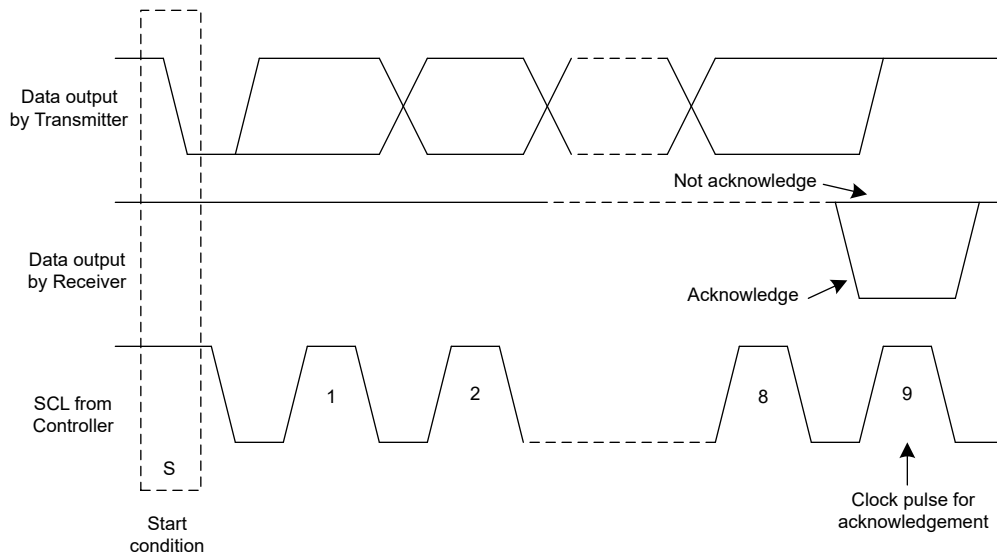
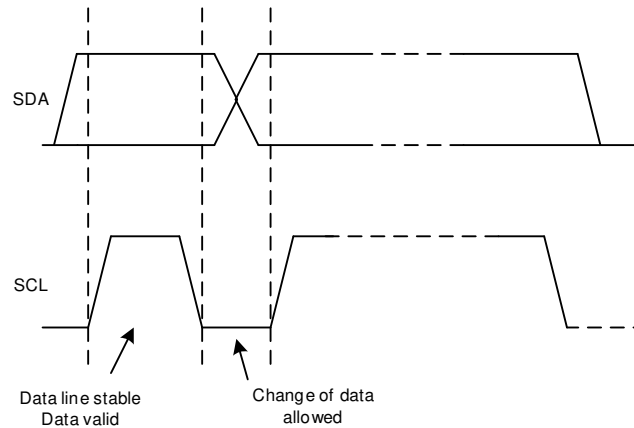

图 8-4. Acknowledge and Not Acknowledge on the I²C Bus
图 8-6. Bit Transfer on the I²C Bus
Other than specific timing signals, the I²C interface works with serial bytes. At the end of each byte, a ninth clock cycle generates and detects an acknowledge signal. Acknowledge is when the SDA line is pulled low during the high period of the ninth clock cycle. A not-acknowledge is when the SDA line is left high during the high period of the ninth clock cycle as shown in Figure 8-4.
2. The controller then generates the SCL pulses, and transmits the 7-bit address and the read/write direction bit (R/W) on the SDA line. During all transmissions, the controller makes sure that data are valid. 图 8-6 shows that a valid data condition requires the SDA line to be stable during the entire high period of the clock pulse. All devices recognize the address sent by the controller and compare the address to the internal fixed addresses. Only the target device with a matching address generates an acknowledge by pulling the SDA line low during the entire high period of the ninth SCL cycle; see also 图 8-4 by pulling the SDA line low during the entire high period of the ninth SCL cycle. Upon detecting this acknowledge, the controller knows the communication link with a target has been established.